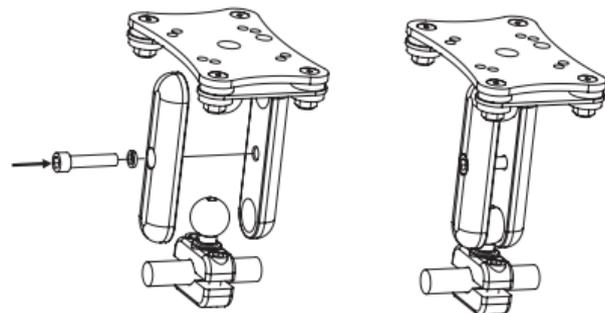

Figure 3
4. Using the $5/32$ " Hex Key, loosely reassemble the top portion of the mount as shown in **Figure 3**.